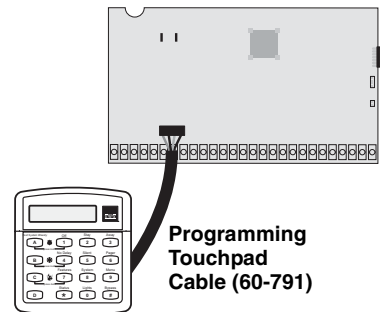

Figure 29. Connecting a Programming Touchpad
- Connect the plug on the cable onto the panel programming touchpad header (see Figure 29).